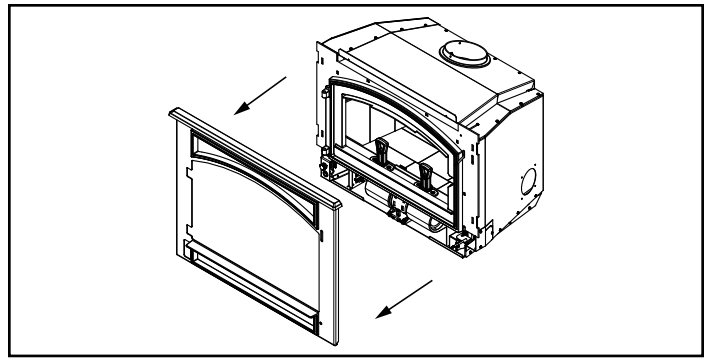

Figure 5.8
3. Remove face by lifting up then out away from appliance and set aside laying it onto a protective surface (**Figure 5.8**).
2. Lift surround assembly to front of appliance (**Figure 5.8**).